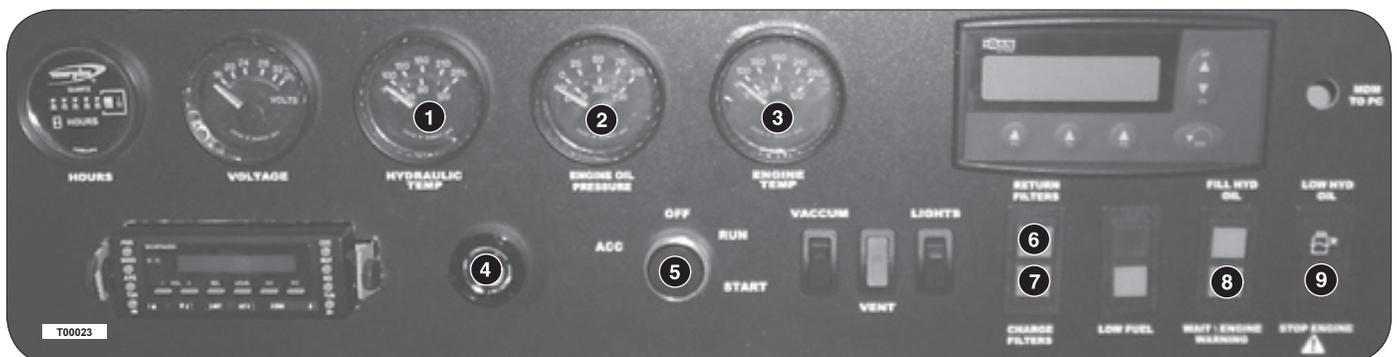

Figure 1: Upper Dash Panel
- 1) Turn the ignition key to the "RUN" position. See Figure 1 - Item #5.
- 2) Check to see if the Wait \ Engine Warning light is lit. If the Wait light is lit, wait until it goes off before starting. See Figure 1 - Item #8.
2. Turn the ignition key to the **"OFF"** position. Remove the ignition key and place in safe-keeping. See Figure 1 - Item #5.
A gradual engine break-in period is recommended. During the first 50 hours of operation, run the engine at moderate speeds and avoid prolong idling. Check the system monitoring gauges frequently, paying particular attention to the following gauges and warning lights: See Figure 1.